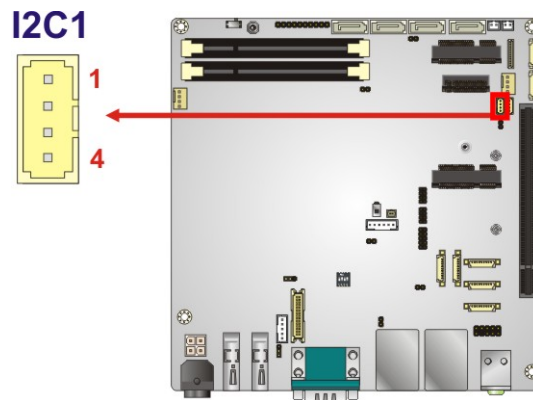

Figure 3-9: I²C Connector Location
- CN Location:** See **Figure 3-9**